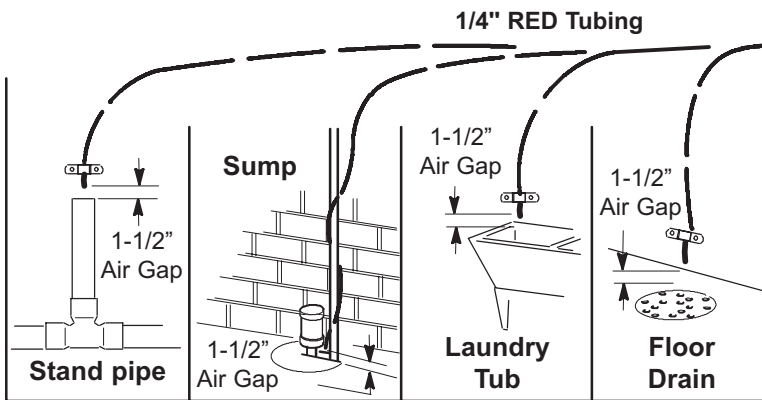

FIG. 12
Route the drain tubing to an existing drain in the house. A floor drain, laundry tub, standpipe, sump, etc. are suitable drain points. See Fig. 12. This type of drain is the preferred over the p-trap drain adaptor.
6. Route the tubing to the drain point and secure at the end with a bracket (not included). See Fig. 12. Provide a 1-1/2" air gap between the end of the tube and the drain. See Fig. 12.